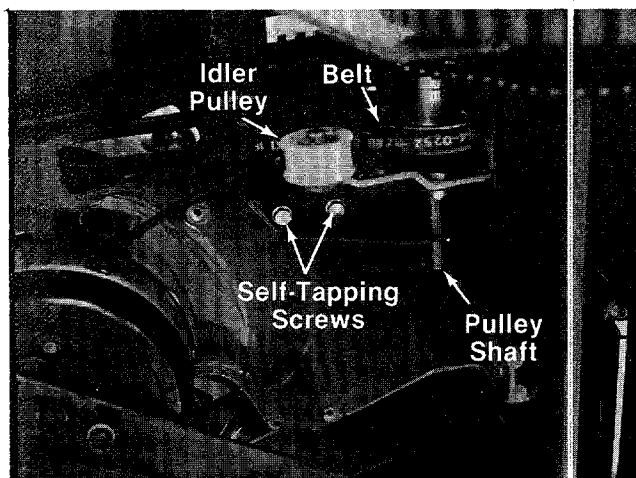

FIGURE 24.
7. Remove the two self-tapping screws which hold the support bracket and idler bracket to the deck. See figure 24. A 7/16" wrench is required.
8. Slide the support bracket and idler bracket (with idler pulley attached) off pulley shaft. See figures 24 and 25.